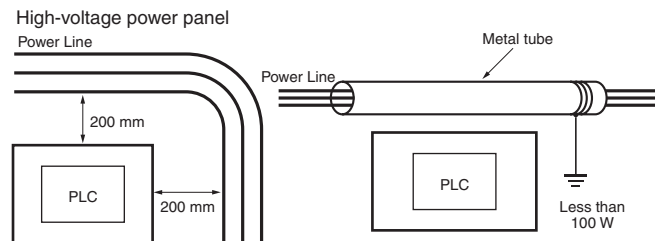

Figure 11. Example of Isolating PLC from Power Line
- ⑥ Install the PLC at least 200 mm from any high voltage or power lines, or make sure that the high current and power lines are contained within metal tubing, and ground to a resistance of 100 W. (See Figure 11)